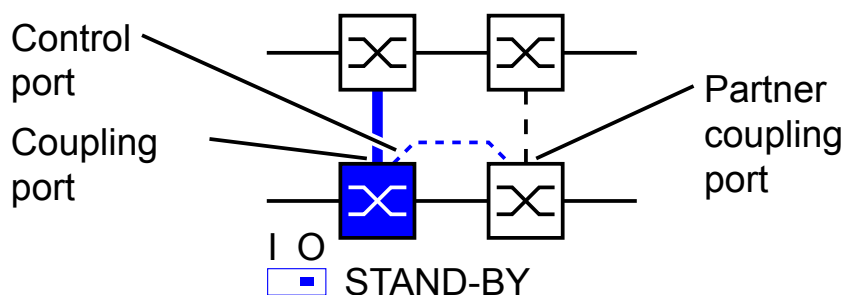

Figure 51: Two-Switch coupling with control line
- Select two-Switch main coupling with control line (see fig. 51).